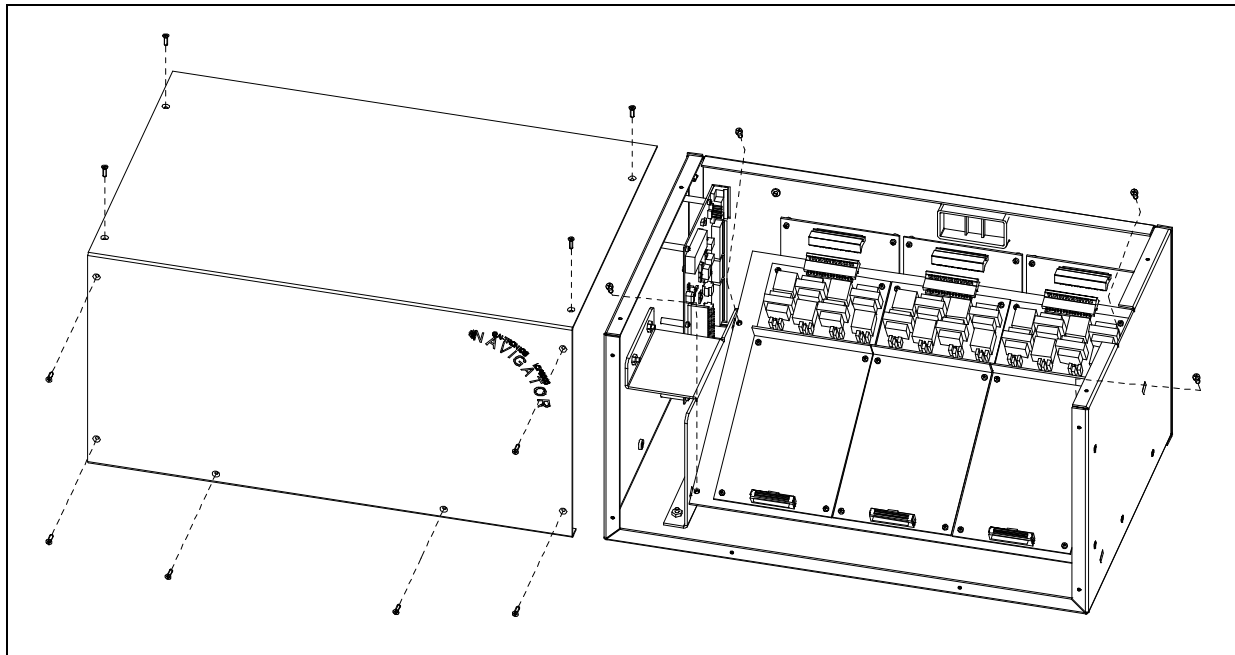

Figure 4.
3. Remove the 10 screws securing the side cover panel and gently lift the cover off. See Figure 4.
4. Remove the 4 screws attaching the mounting plate to the base. This allows you to remove the mounting plate giving you access to the main control PCBA. See Figure 4.